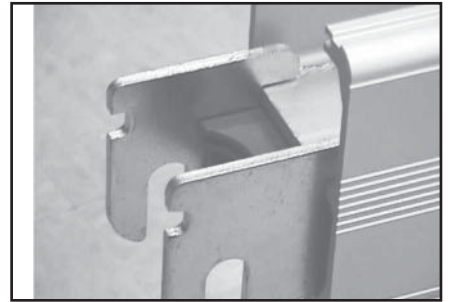

Figure 13
- Hooks should be flush with the rail. Make sure that the metal of hook is in contact with the rail (Figure 13).